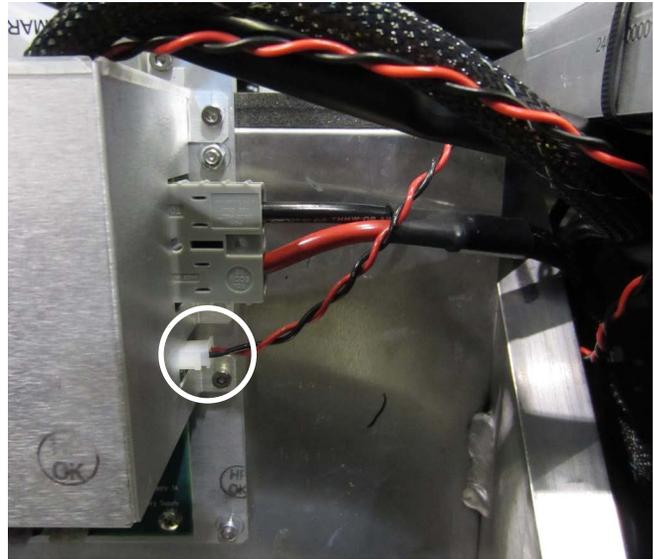

Figure 177: Accessory Power Harness to PI Board
3. Disconnect the wire harness from the PI Board. See Figure 177.
2. Connect the wire harness to the PI Board. See Figure 177.